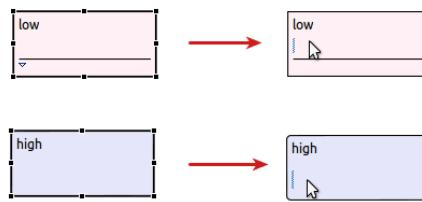

Figure 4.10: Add actions or code
- **Actions and Code in GlobalCode boxes** To add actions to the states or code to GlobalCode boxes from the canvas view, first select the state, and then with your mouse close to the bottom of the element (in case of SuperState slightly above the partitioning line) click again to bring the cursor to front as in Figure 4.10 where you can type in the desired actions or code.